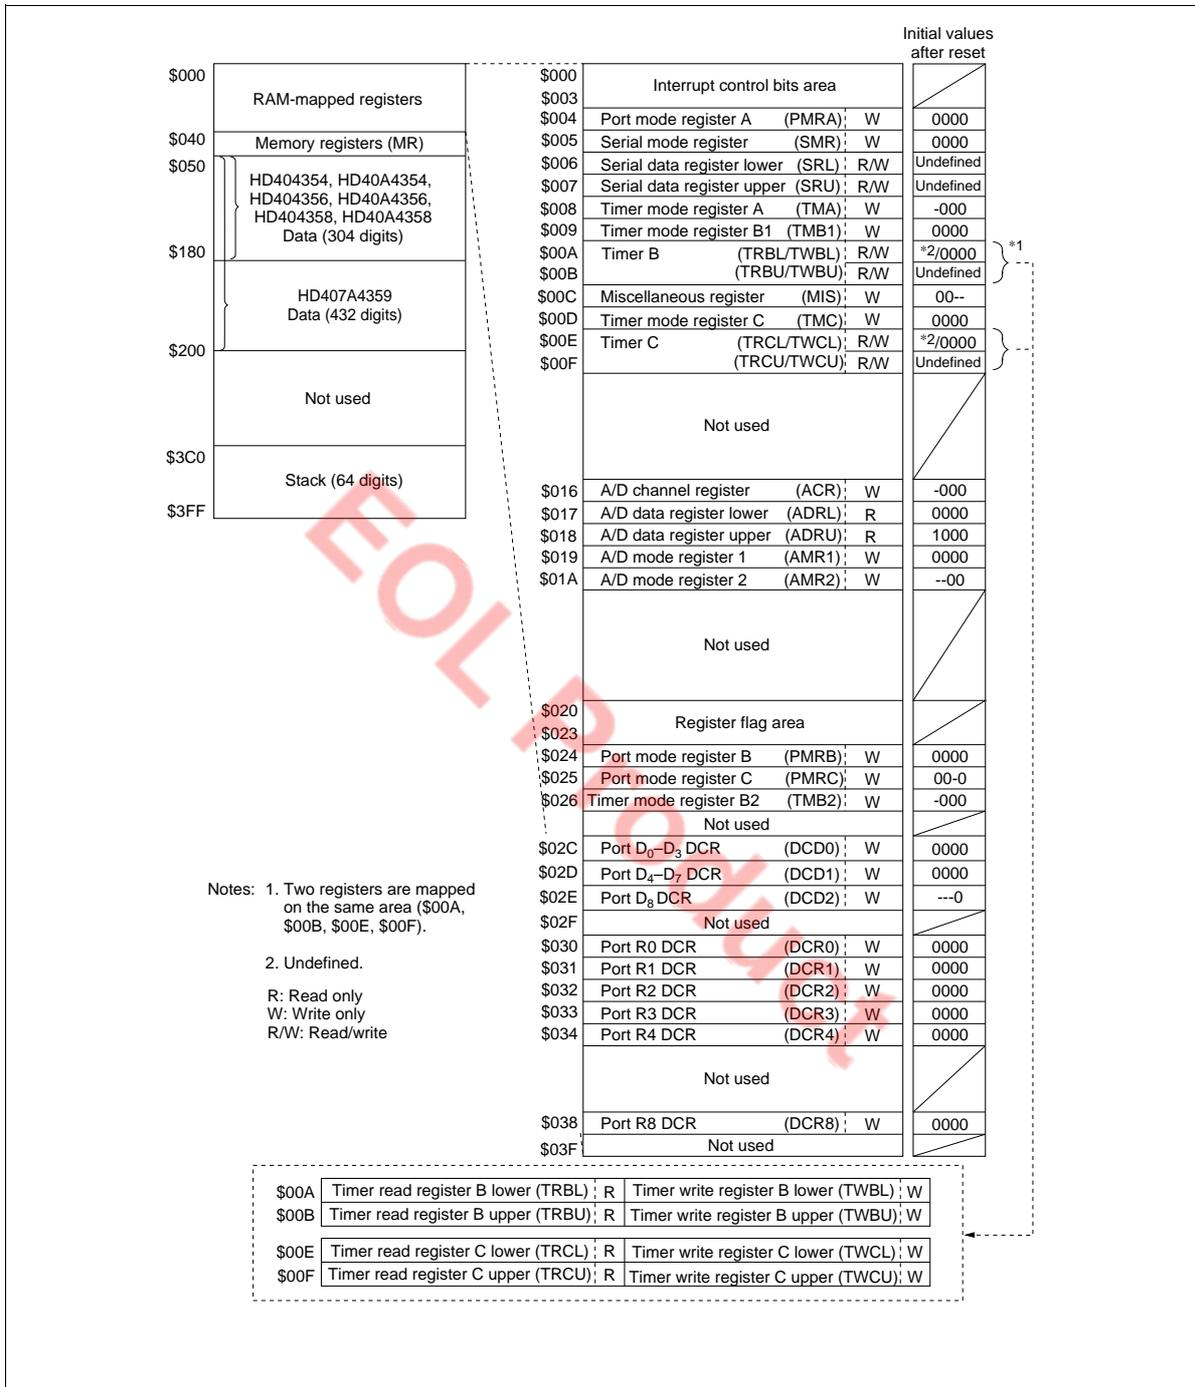

Figure 2 RAM Memory Map
The HD404354, HD40A4354, HD404356, HD40A4356, HD404358 and HD40A4358 MCUs contain 384-digit × 4-bit RAM areas. The HD407A4359 MCU contain 512-digit × 4-bit RAM areas. Both of these RAM areas consist of a memory register area, a data area, and a stack area. In addition, an interrupt control bits area, special function register area, and register flag area are mapped onto the same RAM memory space labeled as a RAM-mapped register area. The RAM memory map is shown in figure 2 and described below.
This area is used as mode registers and data registers for external interrupts, serial interface, timer/counters, A/D converter, and as data control registers for I/O ports. The structure is shown in figures 2 and 5. These registers can be classified into three types: write-only (W), read-only (R), and read/write (R/W). RAM bit manipulation instructions cannot be used for these registers.